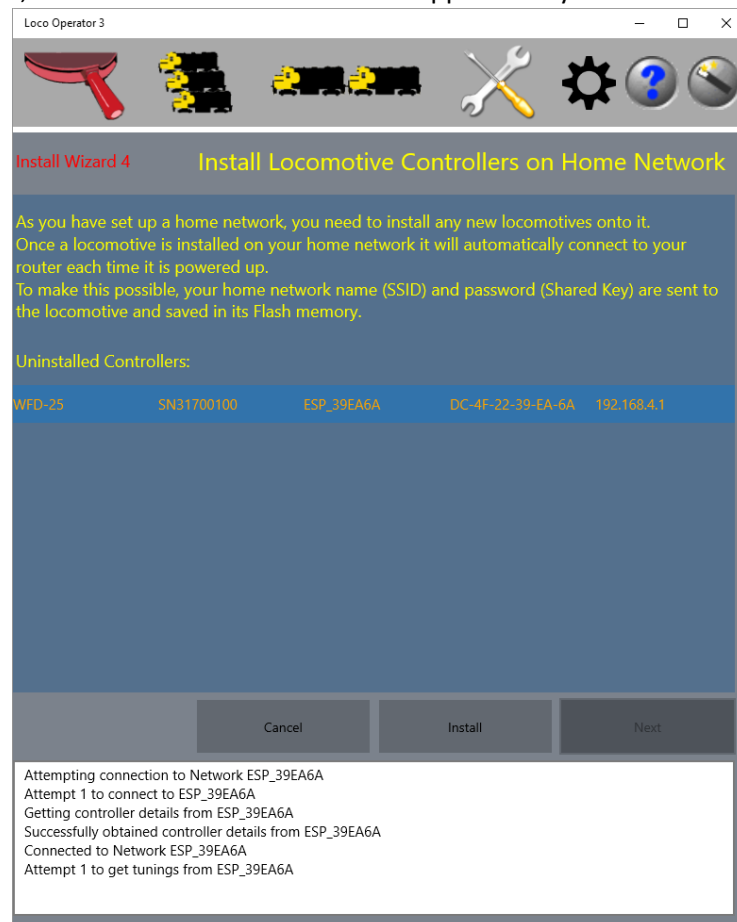

Figure 14 Install Wizard 4 Screen. Installing Locomotives onto your Home Net.
- (6) You now see the Install Wizard 4 screen, as in Figure 14. This allows you to install locomotives or other controllers onto your home net. What does Install mean? It means sending the SSID and Password to the controller so that, each time it powers up, it will automatically connect to your Wi-Fi router.
For the WFD-25, you should see just one uninstalled controller as in Figure 14. Although the WFD-25 can encompass up to 16 locomotives with unique DCC addresses, it appears as just one controller.